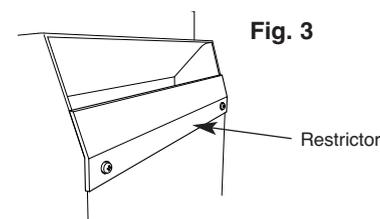

Fig. 3
- c) **Pre-cast Flue** conforming to BS 1289 Part 1 (It may be necessary to use a surround with a deeper rebate than usual to accommodate a flush fit with certain starter blocks. Check the appliance dimensions against individual applications. Pre-cast flue block systems should comply with BS EN 1806 (clay/ceramic) or BS EN 1858 (concrete). The flue area measurement is taken on the rectangular section above the gather block (length x depth). The cross sectional area on post 1986 systems should not be less than 16500mm sq with a minimum internal dimension 90mm. Gas operatives need to be aware that before 1986 the cross sectional area specification was 13000mm sq with the minimum dimension of 63mm. In the case of the smaller flue the outlet restrictor plate **MUST** be fitted (see Fig. 3).